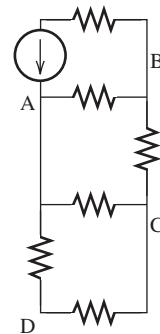

FIGURE P3.30 Circuit for Problem 3.30.
- 3.30 (A)*** Which node is the best choice for a reference node in the circuit in Figure P3.30?
3.43 (B) Identify the meshes and mark the mesh currents in Figure P3.30.